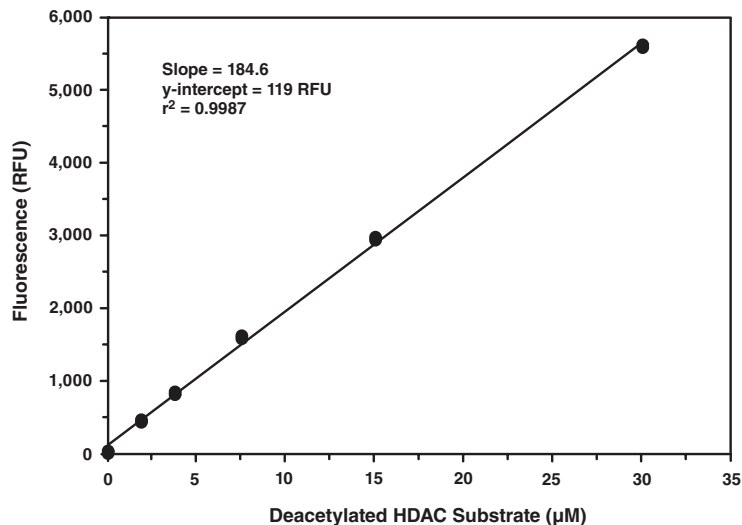

Figure 1. Deacetylated substrate standard curve
2. Plot the corrected fluorescence values (from step 1 above) of each standard as a function of the final concentration of Deacetylated Standards. See Figure 1, on page 14, for a typical standard curve.